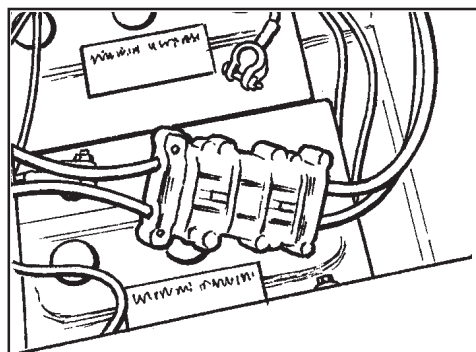

Figure 11
6. Connect the battery charger connector to the battery pack connector in the machine (see figure 11).